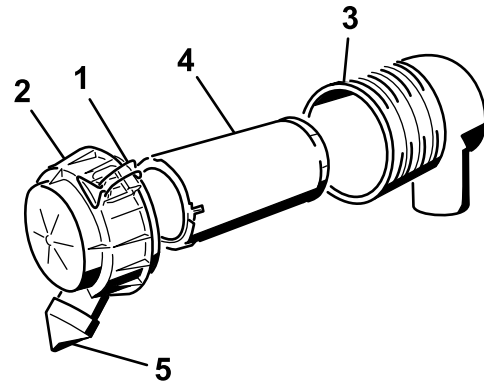

Figure 22
3. Release the latches on the air cleaner and pull the air-cleaner cover off the air-filter body (Figure 22).
6. Gently slide the filter out of the air-filter body (Figure 22).
8. Carefully install the filter (Figure 22).
9. Install the air-cleaner cover with the dust cap oriented downward and secure the latches (Figure 22).